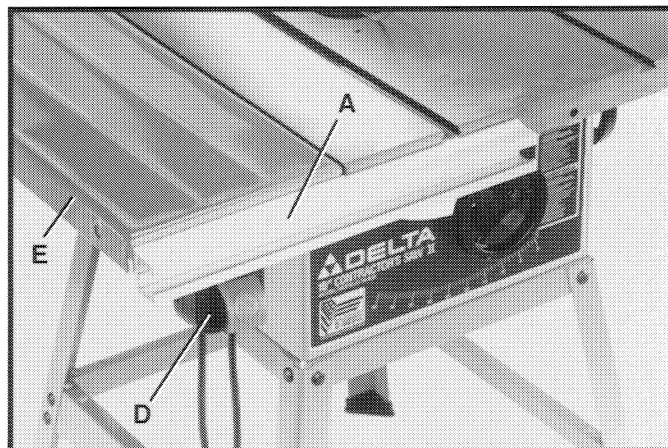
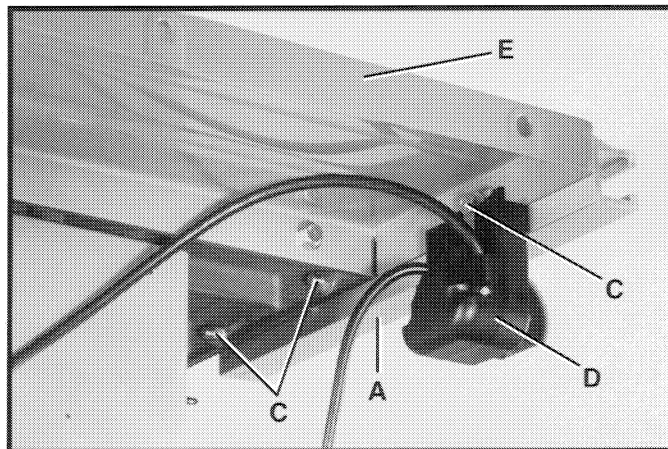
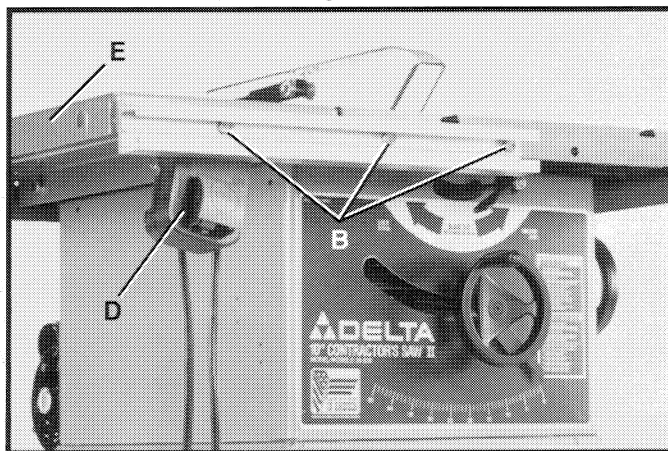

Fig. 32
Fig. 33
Fig. 34
1. Assemble the short guide rail (A) Figs. 32, 33 and 34, to the saw table and extension wing using the three 3/8-24 x 1-1/2" long hex head cap screws (B) Fig. 34, 3/8" I.D. flat washers, and 3/8"-24 hex nuts (C) Fig. 33. **IMPORTANT:** The switch (D) Figs. 32, 33 and 34, can be mounted to the inside of the extension wing (E) as shown, or to the inside of the far right hole of the saw table, in the same manner, after the long guide rail is assembled to the table.
2. Make certain the top surface of the short guide rail (A) Fig. 32, is parallel with the saw table surface and below the bottom of the miter gage slot. Then tighten mounting hardware (B) and (C) Figs. 33 and 34.